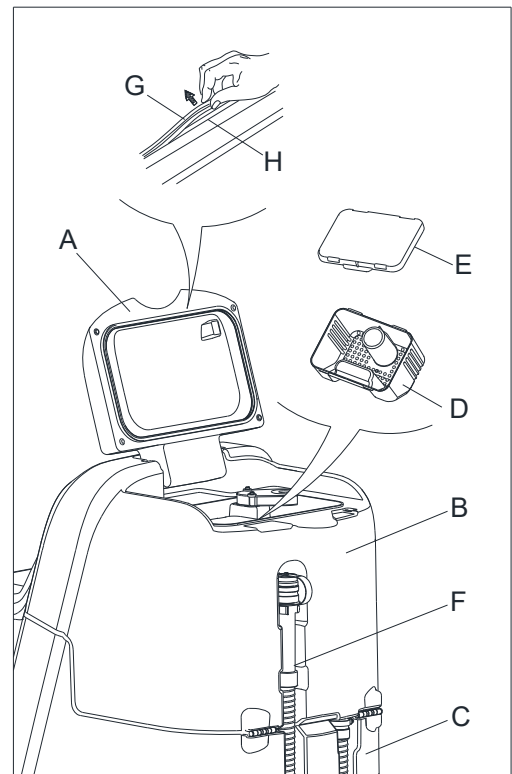

Figure 25
2. Ensure the machine is off and the ignition key (40) has been removed.
3. Turn the recovery tank lid (A, Figure 25) 90 degree position where it can be took off from the tank, and then take down the Debris collection box (D, E Figure 25) from the tank.
4. Clean the recovery tank lid (A), recovery tank (B), clean water tank (C), Debris collection box (D, E Figure 25), Empty the recovery tank with the drain hose (G, Figure 25).
6. Check whether the contact surface of sealing strip (G) is integrity and sealing is sufficient. If necessary, take the sealing strip of the tank out of the groove (H) and replace it. Assembly the new sealing strip as shown in Figure 25, the joint should be back in the middle area.
7. Close the recovery tank lid (A Figure 25).